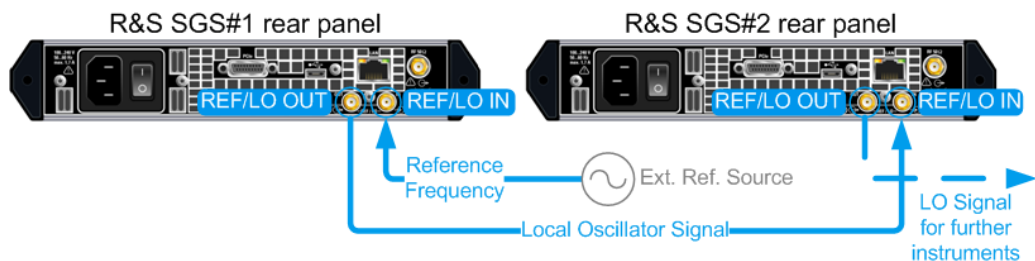

Fig. 9-3: Example of setup: LO Coupling
1. Connect the instruments as a daisy chain (see figure 9-3), i.e. connect the REF/LO IN connector of each further instrument to the REF/LO OUT connector of the previous one.
Refer to figure 9-3 for an example of how to connect two instruments for achieving phase coherence. The configuration can be extended by further instruments.